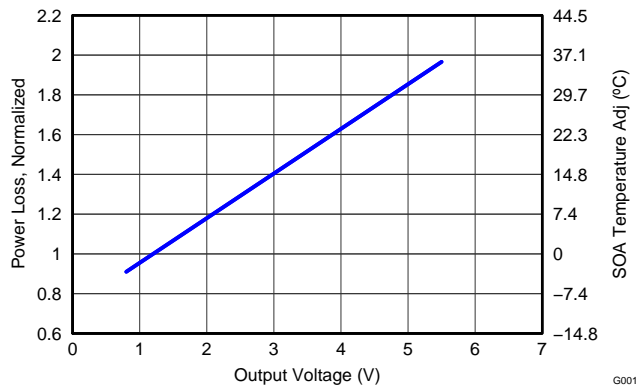

Figure 14. Normalized Power Loss vs Output Voltage
- Normalized Power Loss for output voltage \approx 0.95 (Figure 14)
- SOA adjustment for output voltage \approx -7.7 $^{\circ}$ C (Figure 14)